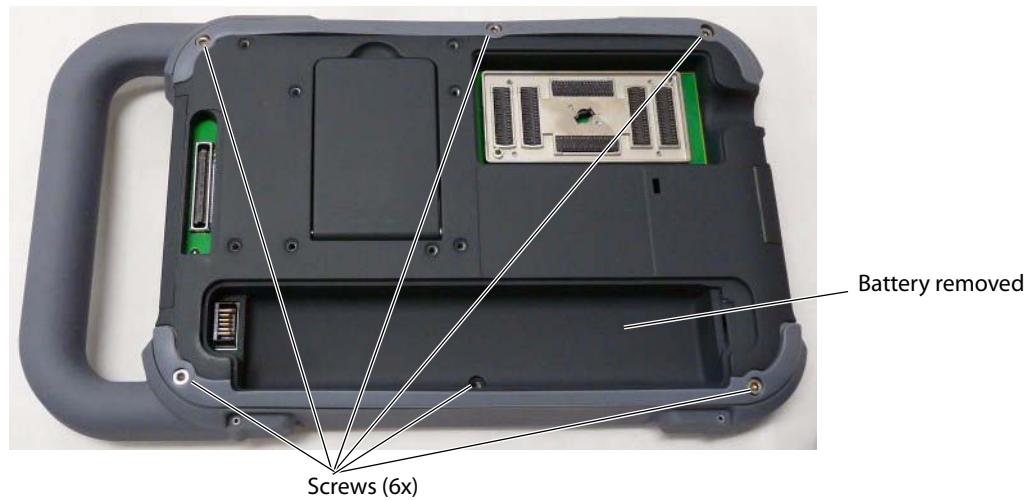

Figure 4.1 Rear Cover Removal
- 2 Remove the six screws from the Rear Cover as shown in Figure 4.1